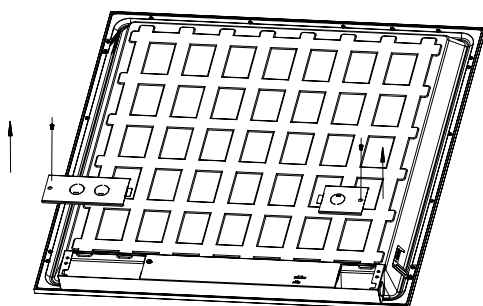

Figure 1
3. Unscrew driver cover and remove knockouts to wire power supply. (Fig1)
1. Remove accessories from the package carefully. Put together the four-piece of drywall flange kits by using the supplied Wafer Head Self Tapping Screws . (Fig 1)